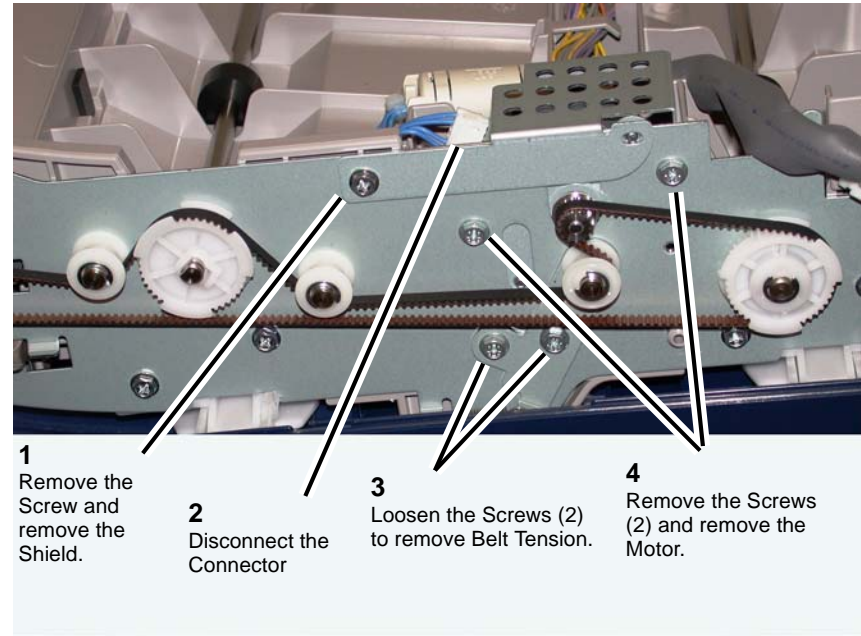

Figure 1 Removing the H-Transport Drive Motor
6. Remove the H-Transport motor (Figure 1).